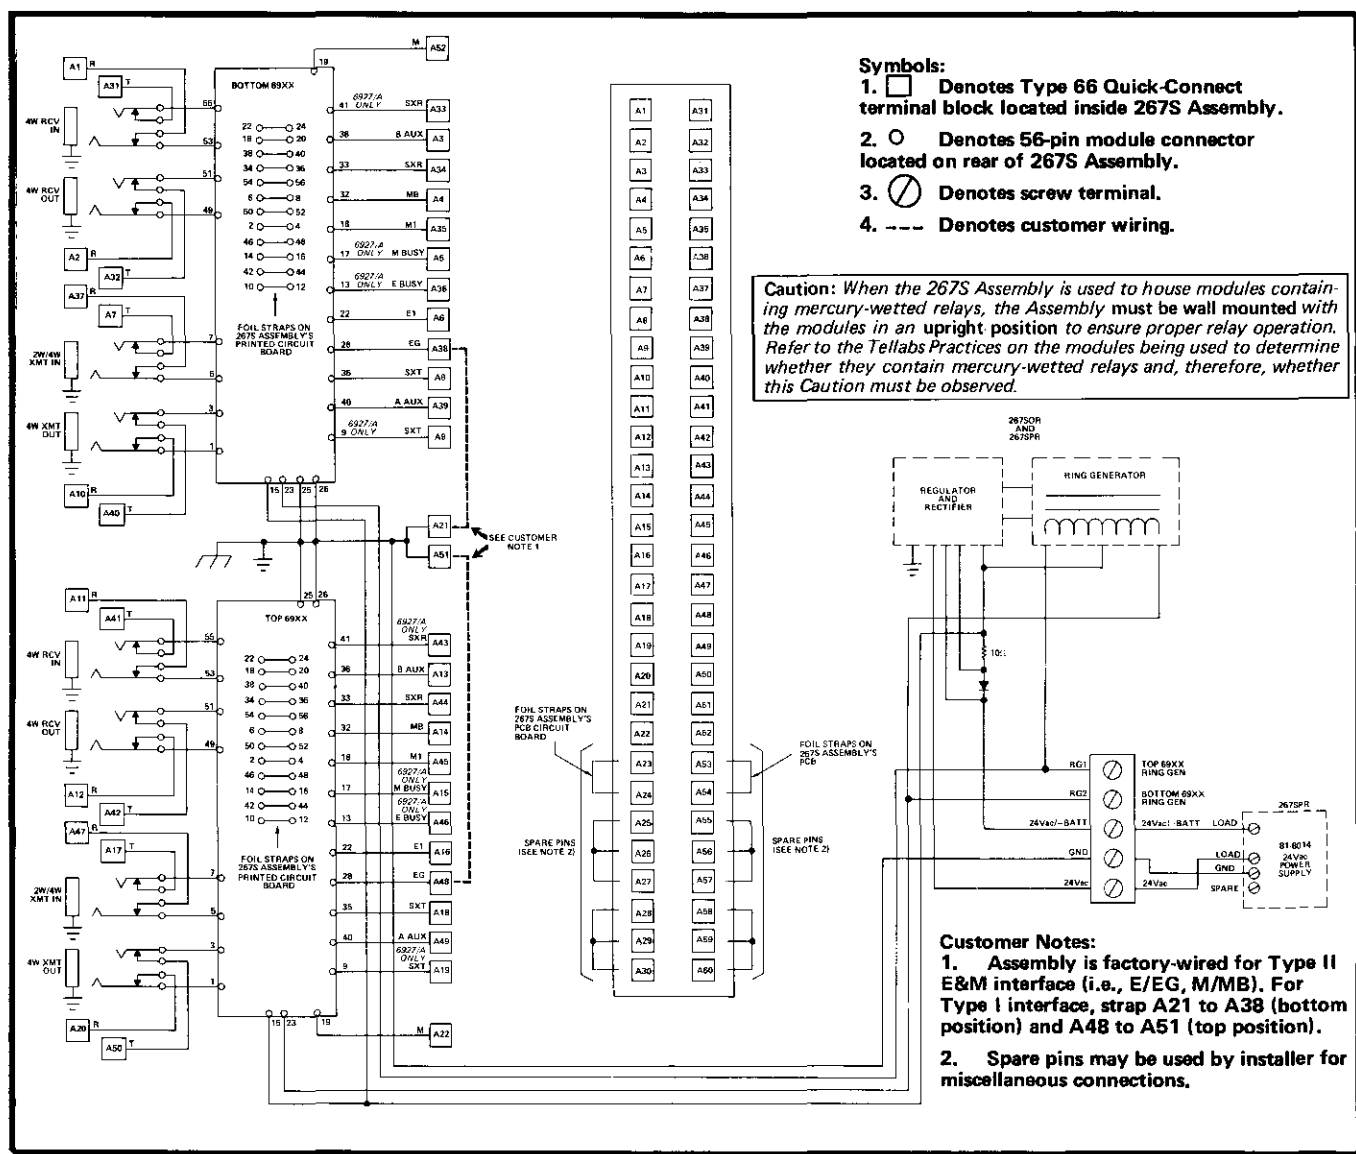

figure 3. 267S wiring diagram
3.02 All facility connections are made to a 60-pin Type 66 quick-connect punching block within the Assembly. Terminal numbers are silk-screened on the block's printed circuit board mounting; these numbers correspond to those shown in figure 3, the 267S Wiring Diagram. Figure 3 also shows the lead designations of each of the punchings used in the dedicated wiring plan, as well as the strapped spares which may be used by the installer for miscellaneous connections. Make all facility connections in accordance with figure 3.
3.03 Power to the 267S Assembly (when ordered with power) is provided by the Tellabs 8014 24Vac Power Supply. Connect the 8014 as shown in figure 3 using a twisted pair, 20AWG or larger, and no more than 30 or 40 feet long. A shielded pair, although preferable to an unshielded pair, is not mandatory. If a shielded twisted pair is used, connect the shield at the transformer, but not at the 267S Assembly unless a local telephone company ground is not available. If a telephone company ground is used, strip the shield back from the power leads and insulate the shield with tape to prevent incidental ground contact with the chassis. Connect the power leads as shown in figure 3, but do not plug the 8014 into the wall until after the properly optioned modules are installed.
Vdc (refer to paragraph 1.05) filtered battery to the input power terminals of the Assembly's barrier-type terminal strip. Use either a twisted pair or a shielded twisted pair, 20AWG or larger and no longer than about 20 feet. Connect the positive power lead to the *GND* terminal on the barrier strip and the negative power lead to the *-BATT* terminal (see figure 3).